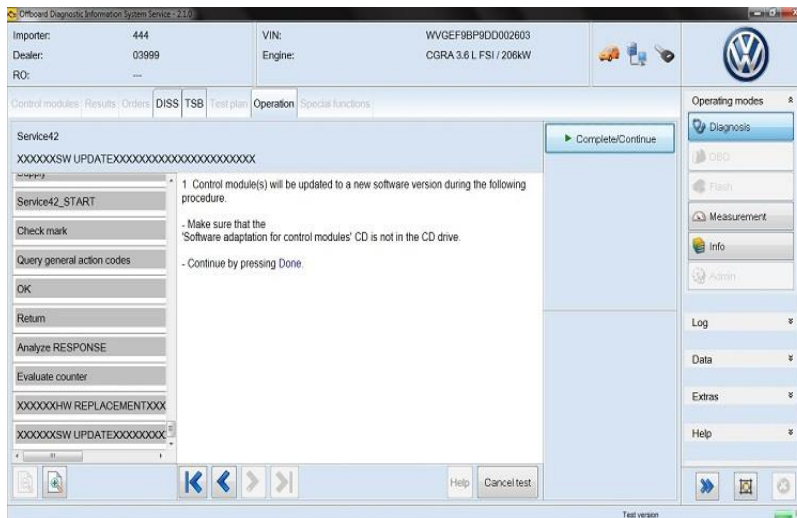

Figure 5
11. The procedure may include one, or any combination of the following comments for one or more control modules as specified in the Technical Bulletin/Update (Figure 5):